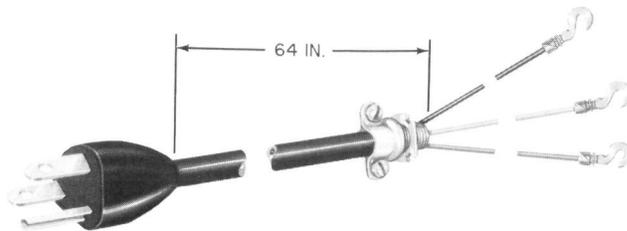

Fig. 3—KS-19425, List 22 Cable Assembly
2.11 A KS-19425, List 22 cable assembly (Fig. 3) may be used to bring overhead power into an *indoor* booth at either side or rear.